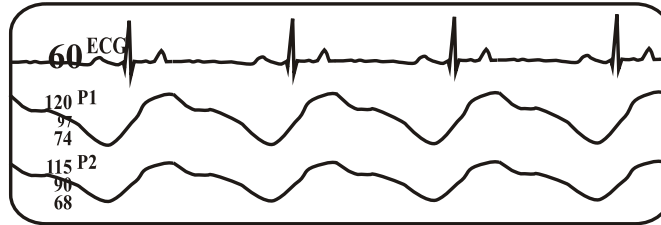

Figure 1-5. Vital Signs Trace Display
b. **Vital Signs Trace Display.** (See Figure 1-5) The Vital Signs Trace Display is located in the central area of the Normal Screen. This area contains up to three waveform traces as follows:
- (1) **Trace A.** The top trace on the display is designated Trace A. The ECG waveform trace is displayed in this area with a numeric indication of the patient's Heart Rate to the left beside a visual indication of the parameter being monitored.
- (2) **Trace B.** The middle trace on the display is designated Trace B. The P1 Pressure waveform trace is displayed in this area with a numeric indication of the Systolic, Mean and Diastolic pressures to the left next to a visual indication of the parameter being monitored.
- (3) **Trace C.** The bottom trace on the display is designated Trace C. This area may contain either the P2 Pressure waveform trace or, if P2 is OFF, the SpO2 waveform trace. A numeric indication of the measurement value of the parameter is on the left next to a visual indication of the parameter being monitored.